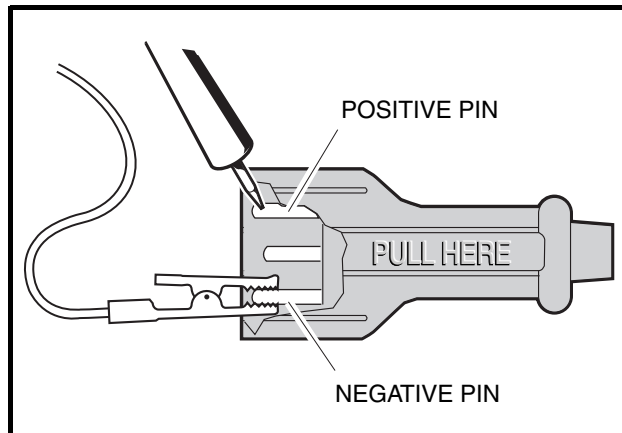

Figure 8-12 DC Plug Test
2. Using a continuity tester (CC P/N 1011273) or multimeter (CC P/N 1011480) set to 200 ohms, connect the test probes to the pins marked (+) and (–) on the DC plug (**Figure 8-12, Page 8-18**). Note the reading.